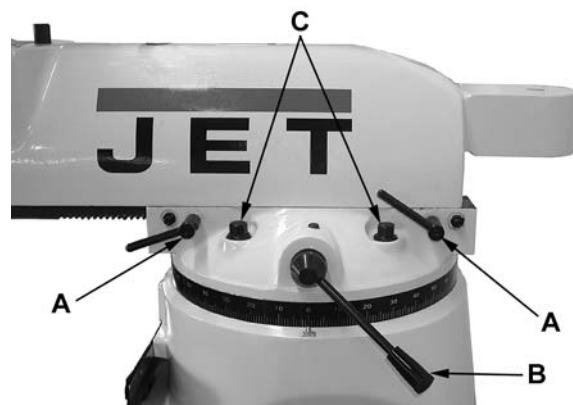

Figure 11: Ram positioning
- Loosen two bolts (A, Figure 11) that lock ram to its ways.
- Turn lever (B, Figure 11) to move ram on its ways.
- When desired position is reached, lock bolts (A, Figure 11) securely.
- Loosen four turret lock bolts (C, Figure 11). One-half (1/2) turn should be sufficient to allow turret to move.